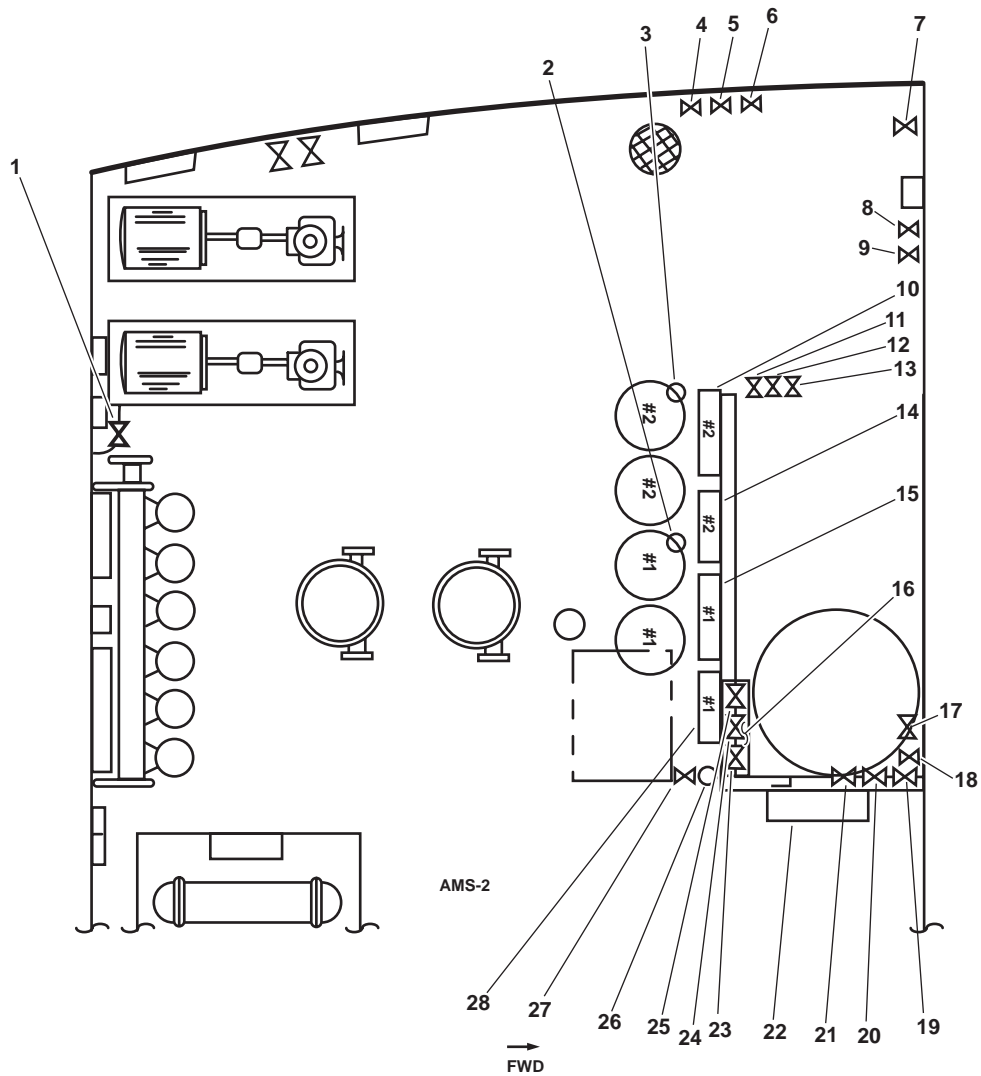

Figure 1. Reverse Osmosis Water Purification Unit (ROWPU) General Arrangement
**Table 1. Reverse Osmosis Water Purification Unit (ROWPU) General Arrangement (refer to figure 1)**
**Table 1. Reverse Osmosis Water Purification Unit (ROWPU) General Arrangement (refer to figure 1)